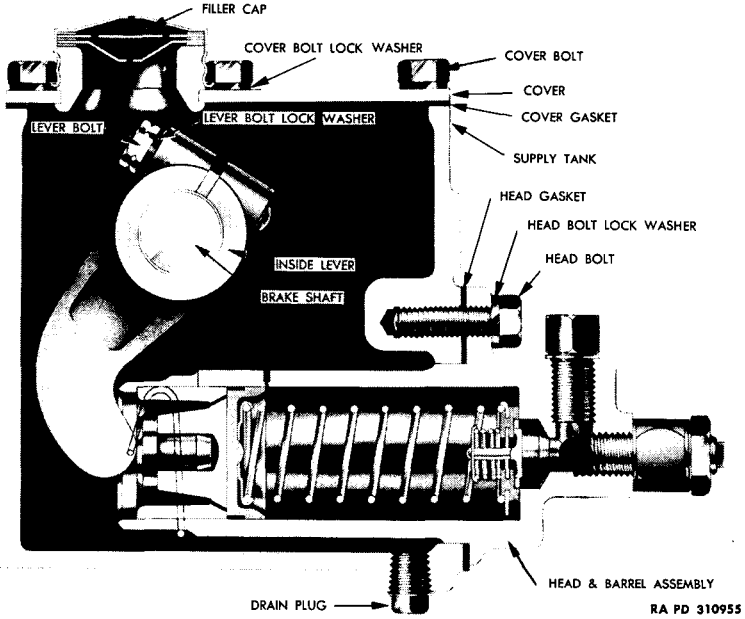

Figure 5 — Box Type Master Cylinder
12. DESCRIPTION (figs. 5 and 6).
13. CONSTRUCTION AND OPERATION (figs. 5 and 6).